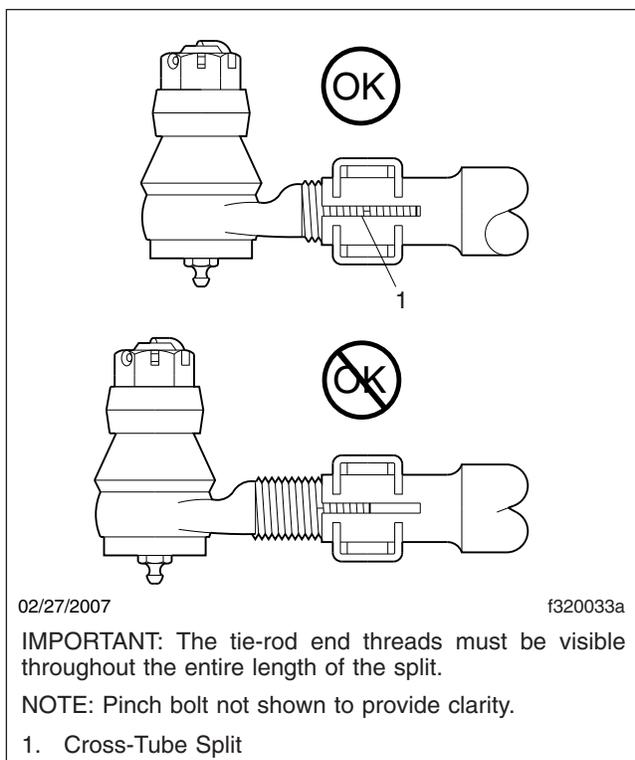

Fig. 5, Tie-Rod End Adjustment
- 2.2 The threaded portion of the tie-rod end assembly must be inserted all the way into the cross-tube split for adequate clamping. See **Fig. 5**. Replace the parts if this cannot be done. For instructions, see the axle manufacturer's service manual.